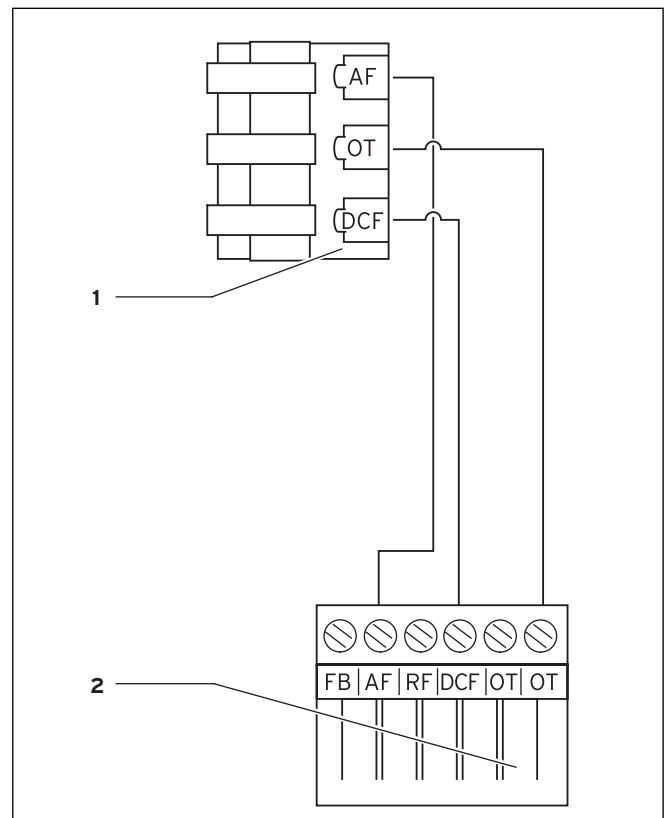

Fig. 5.3 Electrical connection of the external sensor VRC 9535
- ⇒ Connect the connection cable to the terminal rail of the external sensor as per Fig. 5.3.
- ⇒ Connect the connection cable to the 6-pole edge connector as per Fig. 5.3.